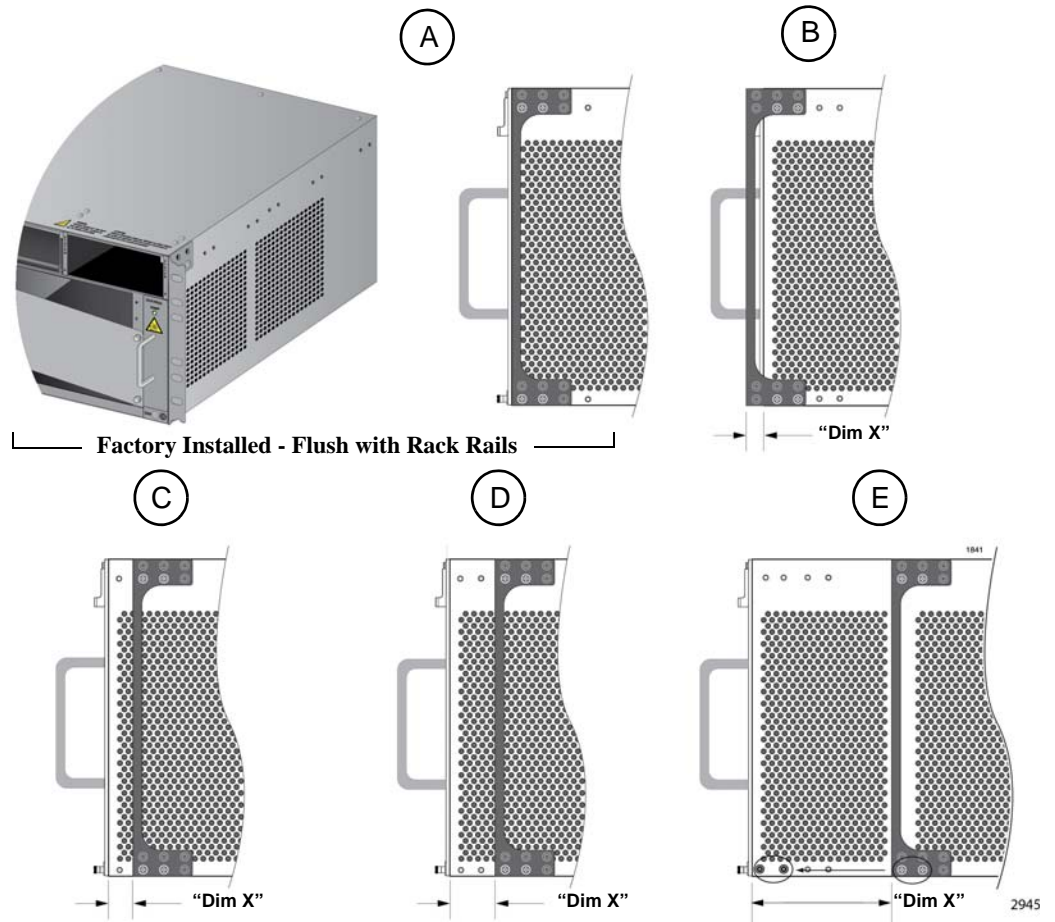
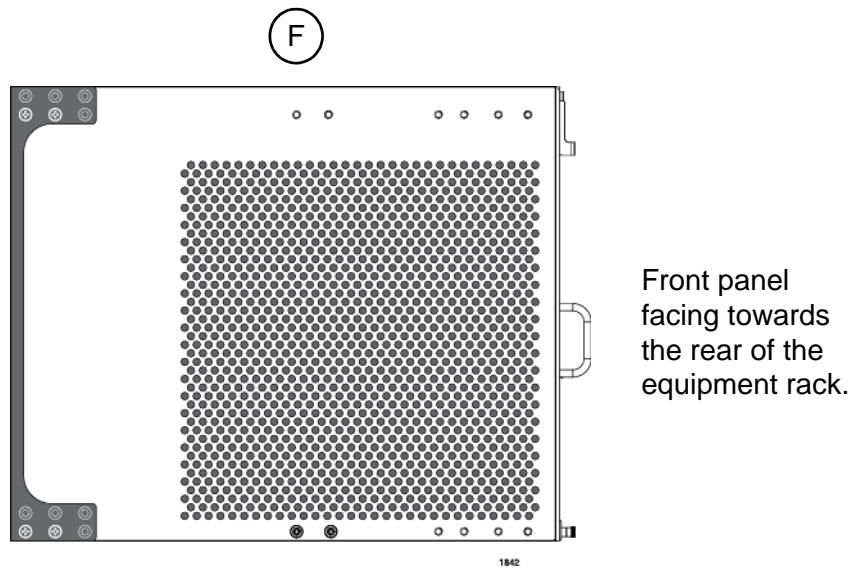

Figure 49. Rack Mounting Bracket Locations
Figure 50. Rack Bracket Locations for Reverse Position of Chassis
You adjust the brackets by removing them and re-installing them in different positions on the sides of the chassis. The bracket positions are listed in Table 29 and illustrated in Figure 49 on page 123 and Figure 50 on page 123. Please review the following information before moving the brackets:
- ❑ To install the rack mount brackets in position “E,” you have to remove the two chassis screws from the bottom-middle section of the chassis and re-install them in front where the rack mount bracket screws were originally, as shown in Figure 49 on page 123.
- ❑ The dimension (X) between the front panel and the rack rails is given for each rack mounting bracket position in Table 29.